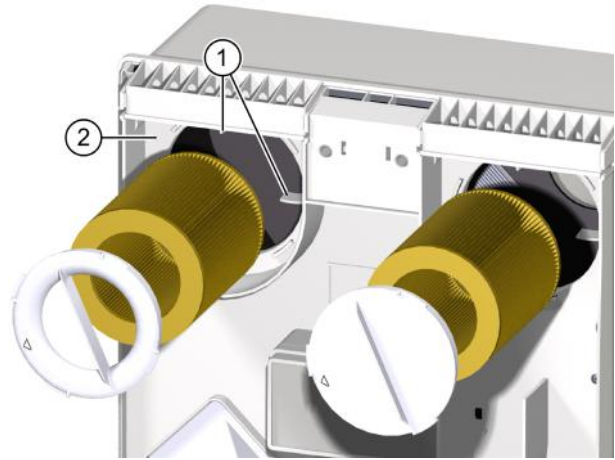

Fig. 15: Insert filter
- ▶ Make sure that the filter slides into the four retaining tabs (item 1 in Fig. 15) on the back wall of the ventilation unit.
- ▶ Place the filter ring on the extract air filter. Make sure that the filter ring lies flat on the intermediate plate (item 2 in Fig. 15).